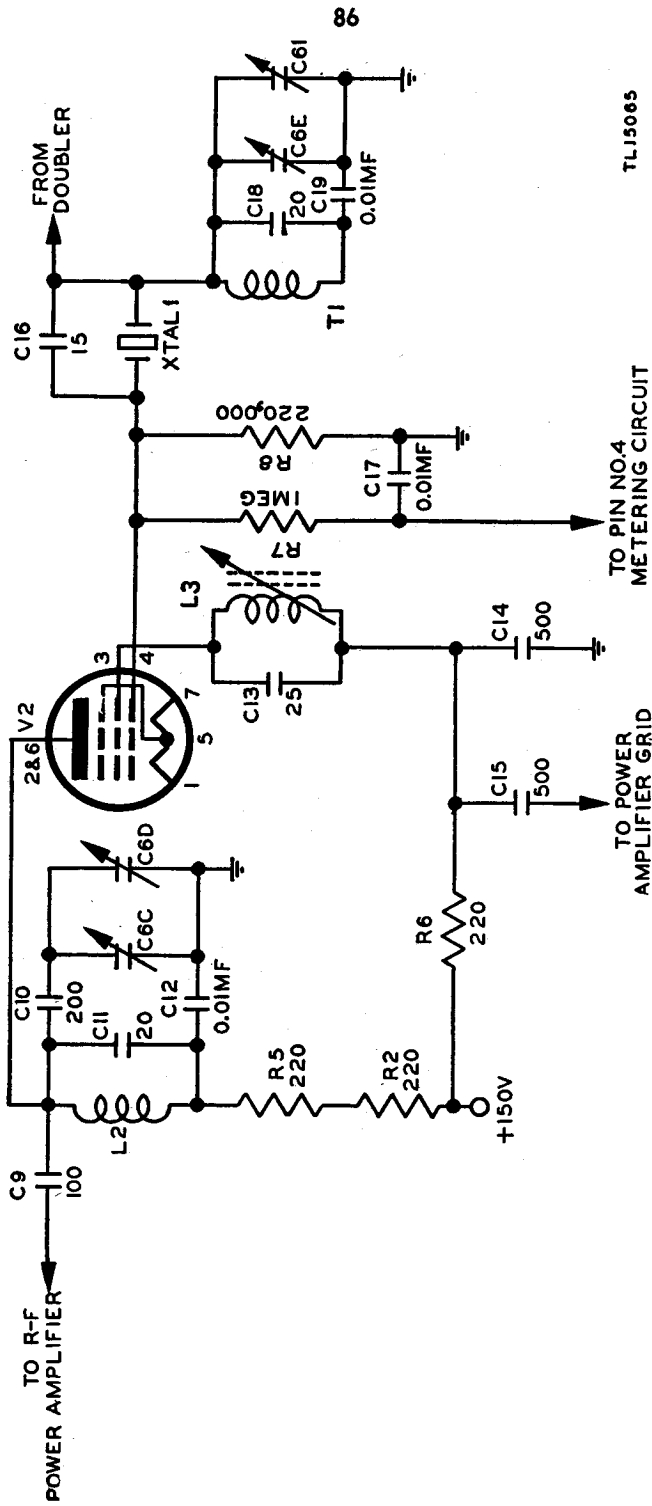

Figure 55. Radio Receiver and Transmitter BC-1000-A, transmitter mixer and crystal oscillator.
(2) The second condition, that effective capacitance must be variable in accordance with the change in grid potential of the modulator tube, is met by controlling the amount of plate current contributed by the reactance modulator tube. During modulation the grid of the reactance modulator tube is swung about its operating point by the applied audio signal. These audio signal variations on the grid cause corresponding variations in the plate current, in capacitance across the oscillator tank, and in oscillator frequency. The larger the amplitude of the signal variations impressed on the grid, the greater will be the plate current variations and the farther the master oscillator frequency will swing above and below the resting frequency.
a. The transmitter mixer and crystal-oscillator Tube JAN-3A4, V2, as shown in figure 55, generates a crystal-controlled frequency which is combined with the output of the doubler stage in the mixer section of the tube.